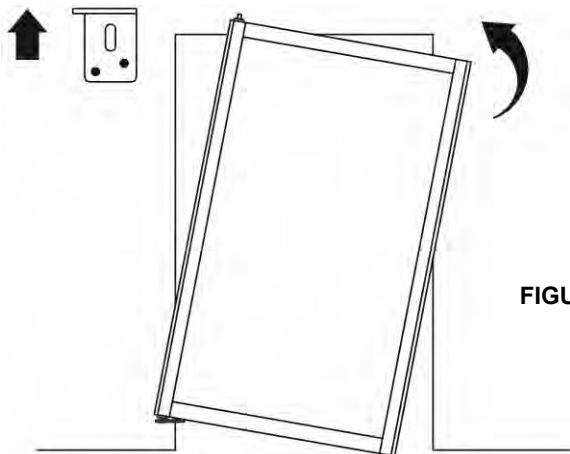

FIGURE 5
Lift door onto bottom pivot bracket, so pivot bushing on door seals into pivot bracket hole. While holding door with one hand, use other hand to slide top pivot bracket upwards in slot. Position top pivot under pivot hole in the top bracket and lower bracket onto the pivot bushing. Open door and fasten loose screw, then install and secure remaining six 1 1/2"(38) flat head screws into the holes toward opening only (Figure 5).